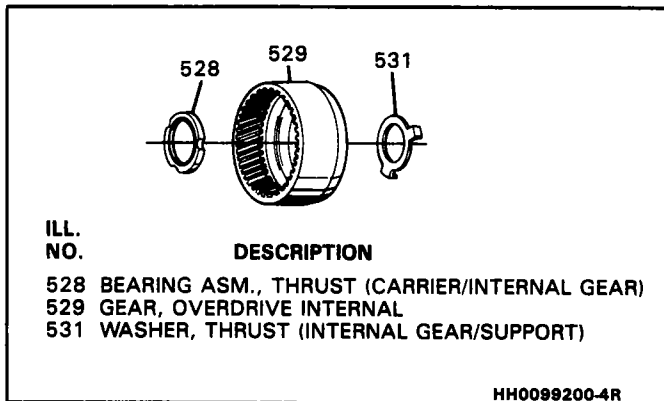

Figure 86 Overdrive Internal Gear
1. Fourth clutch piston (534).
2. Spring and retainer (533).
4. Snap ring (532).
**Inspect (Figure 86)**
- Thrust washer (531) for:
- Internal gear (529) for:
- Thrust bearing (528) for: